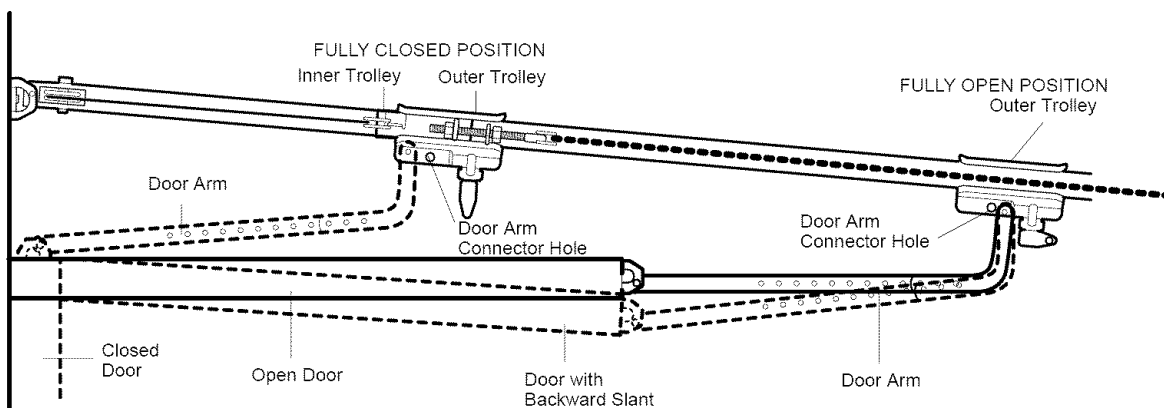

Figure 5
2. Adjustment procedures, Figure 5: